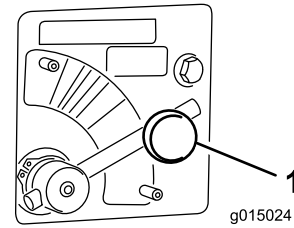

Figure 44
1. Loosen the knob securing the spinner valve lever (Figure 44).
2. Rotate the spinner valve lever (Figure 44) to the desired color (yellow for this example).
1. Move the spinner valve lever to the **Blue** section (MAX SPEED) (Figure 44). Fully turned clockwise the lever should be horizontal.